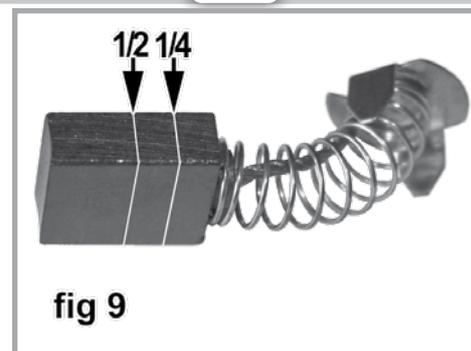

fig 9
3. Replace brushes when they are excessively chipped or wear down to the limit (1/4) mark (fig.9).